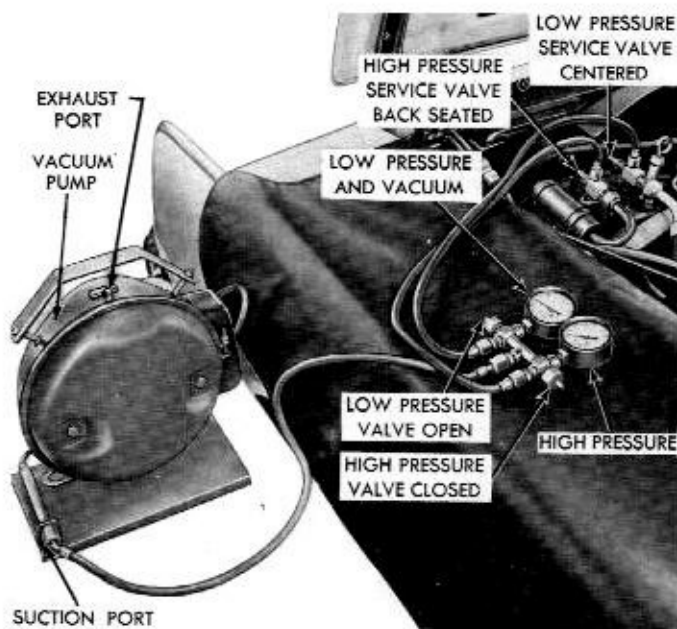

Fig. 2-4—Evacuating the System—(61LM-8804)
2. Connect the flexible hose of the center manifold connection to the vacuum pump. Open the valve on the suction side of the manifold. Close the valve on the discharge side of the manifold. (See figure 2-4.)